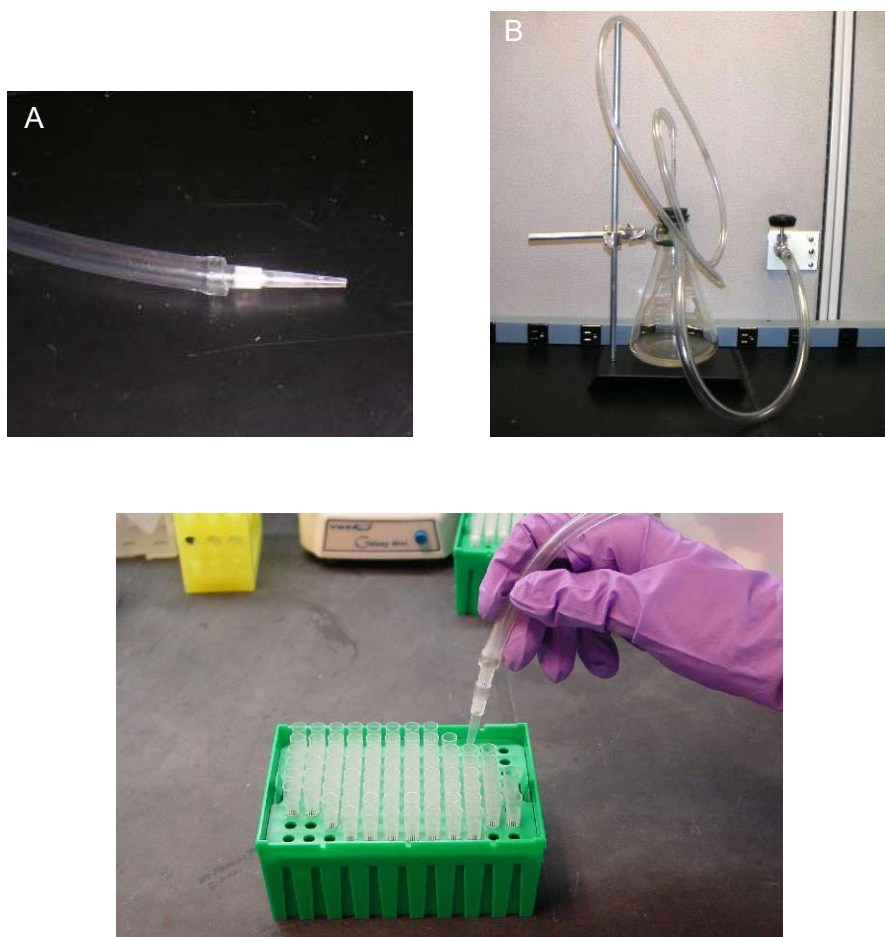

Figure 21. A: Permanent pipette tip attached to a house vacuum line; B: vacuum line with trap. C. Replacing the disposable pipette tip.
- Aspirating with a pipette can leave used reagents in the chip wells. For this reason, Revvity recommends vacuuming the wells instead. This can be accomplished by attaching a permanent pipette tip to a house vacuum line with trap (Figure 21). To avoid contamination, use a new disposable pipette tip over the permanent tip for each chip aspirated (Figure 21).